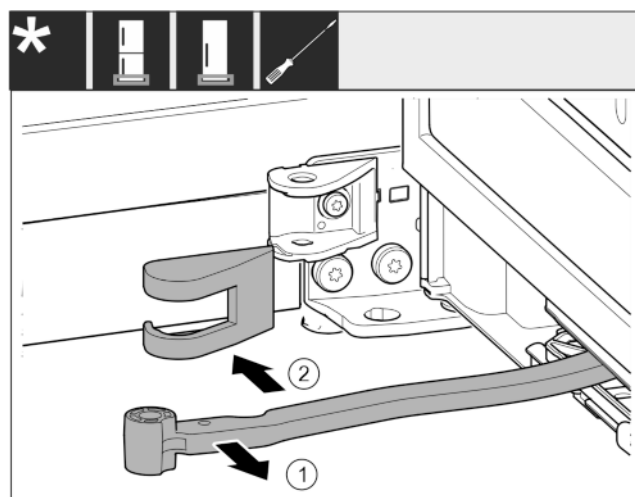

Fig. 13
- Turn the hinge in the direction of the door. Fig. 13 (1)
- Remove the bearing bracket cover. Fig. 13 (2)